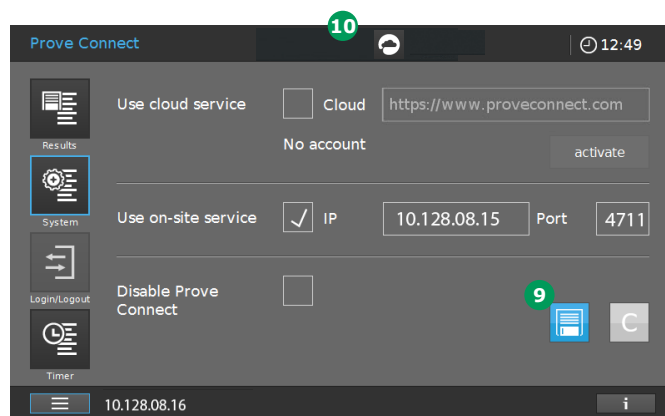

Figure 22 - Screen of Spectroquant® Prove / Prove plus with all network details
10. After setting all parameters (Checkmark, IP, and Port), press the save icon 9 (Figure 22).
When the connection is established the cloud icon 10 (Figure 22) appears in the instrument display.